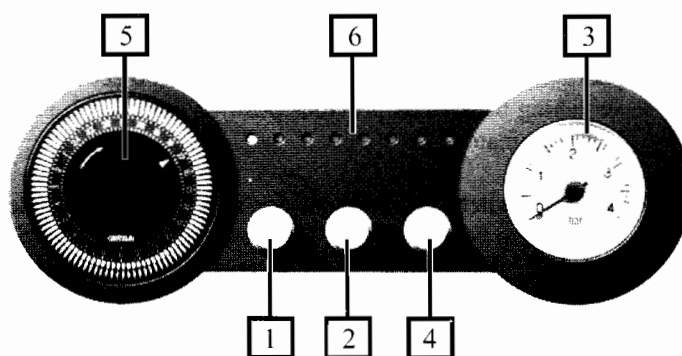

Figure 16
13.2 Re-set function: Should the boiler lock out at any time, please check the gas supply and ionisation probe position, the boiler may be re-started by switching to standby “O” position (Switch 4 *figure 16*) waiting 15-30 seconds and switching back to its previous position once the fault has been eliminated.